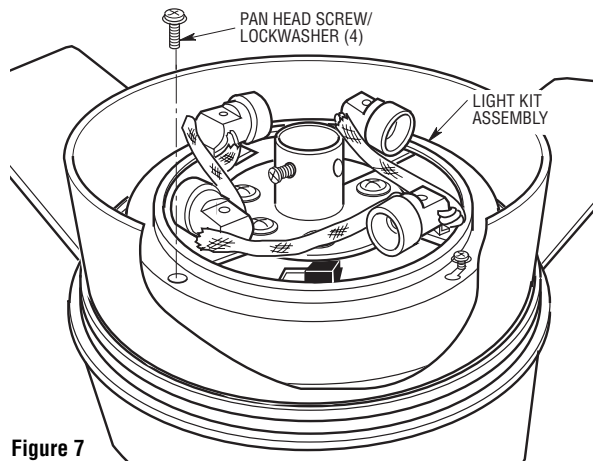

Figure 7
- 8. Remove and retain one of the four pan head screw/lockwashers from the fan motor assembly (Figure 7); loosen the other three pan head screws three or four turns. Position the light kit assembly on the fan motor assembly so that the three screws mate with the three keyhole slots in the light kit assembly (Figure 7).